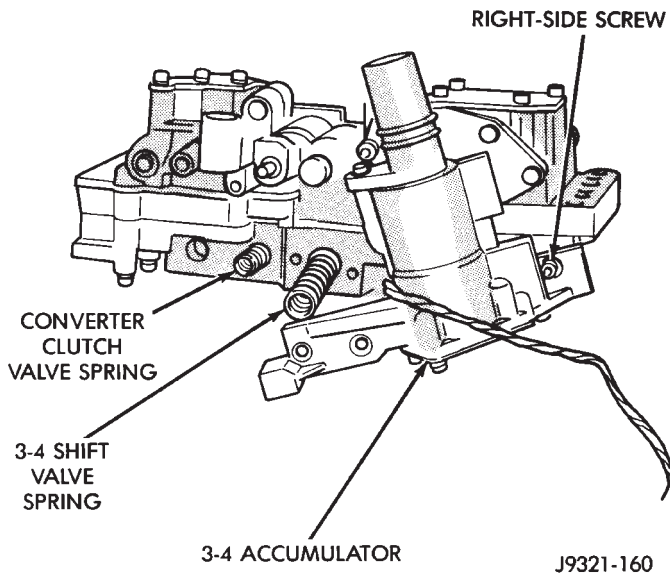
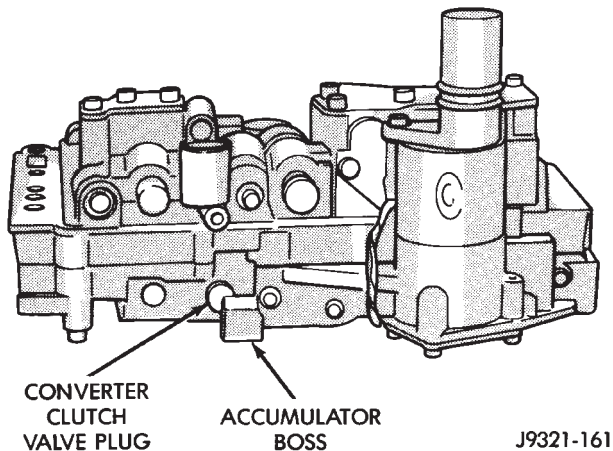

Fig. 134 Installing Converter Clutch And 3-4 Shift Valve Springs
Fig. 135 Seating 3-4 Accumulator On Lower Housing
(1) Position converter clutch valve and 3-4 shift valve springs in housing (Fig. 134).
(2) Loosely attach accumulator housing with right-side screw (Fig. 134). Install only one screw at this time as accumulator must be free to pivot upward for ease of installation.
(3) Position plug on end of converter clutch valve spring. Then compress and hold springs and plug in place with fingers of one hand.
(4) Swing accumulator housing upward over valve springs and plug.
(5) Hold accumulator housing firmly in place and install remaining two attaching screws. Be sure springs and clutch valve plug are properly seated (Fig. 135).